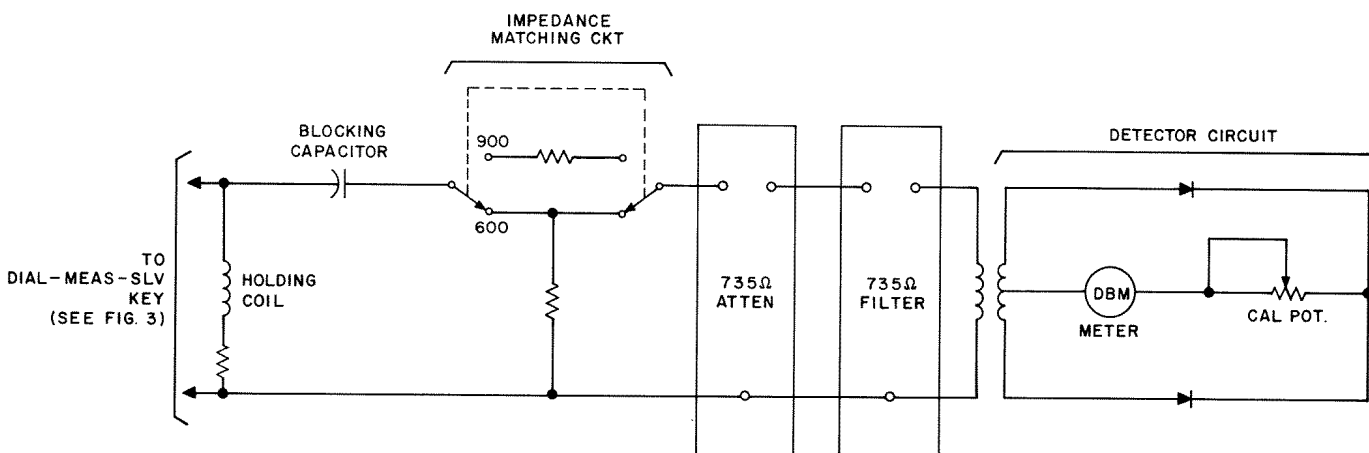
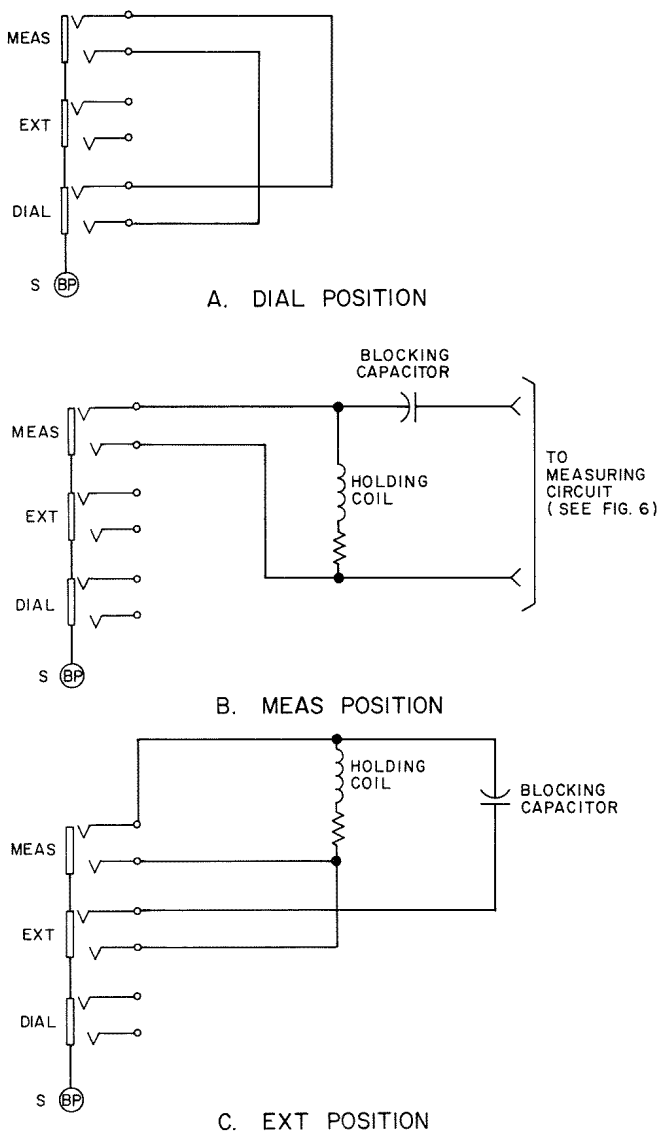

Fig. 4—Simplified Schematic of the Holding, Blocking, and Measuring Circuits of the 23A TMS
Fig. 5—Simplified Schematic of the DIAL-MEAS-EXT Key, Holding and Blocking Circuits of the 23D TMS
matching, attenuator, filter, detector, and meter. The simplified schematic of the 23A TMS is shown in Fig. 3 and Fig. 4. For the 23D TMS, it is shown in Fig. 5 and 6.
3.10 The circuit of the 23D set for the three positions of the DIAL-MEAS-EXT key is shown in schematic form in Fig. 5.